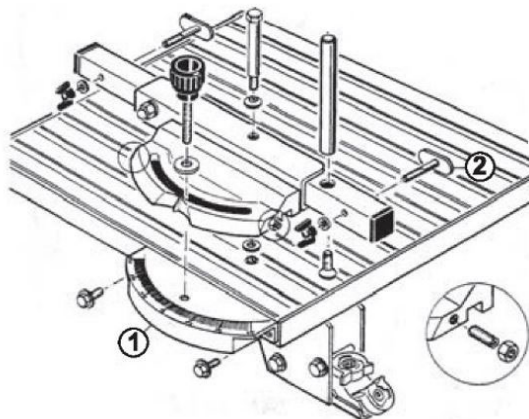

Fig. 12: Sliding table assembly with angle fence
Step 1: Fit the scale holder (item 1, Fig. 12) to the sliding table.
Step 2: Insert the two hammer-head bolts (item 2, Fig. 12) into the fence tube and secure in position. Do not yet tighten the bolts completely!